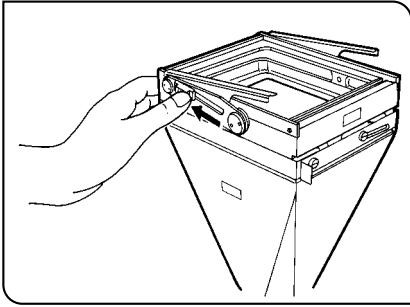

Fig. 28
1. Slide the lock buttons (on both sides) of the intermediate adapter in the direction opposite to locking (releasing side). At the end of their travel, press the buttons and the clamping device will lift up, widening the film holder insertion opening. (Fig. 28)